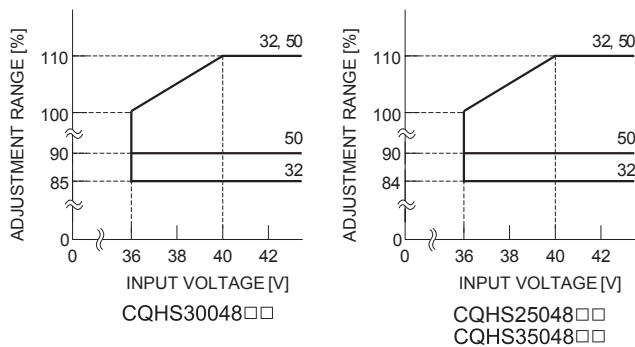

Fig. 3.7 Output voltage adjustment range
(4) Input voltage derating
■When the input voltage is 36 - 40VDC, the output voltage adjustment range becomes as shown in Fig. 3.7.